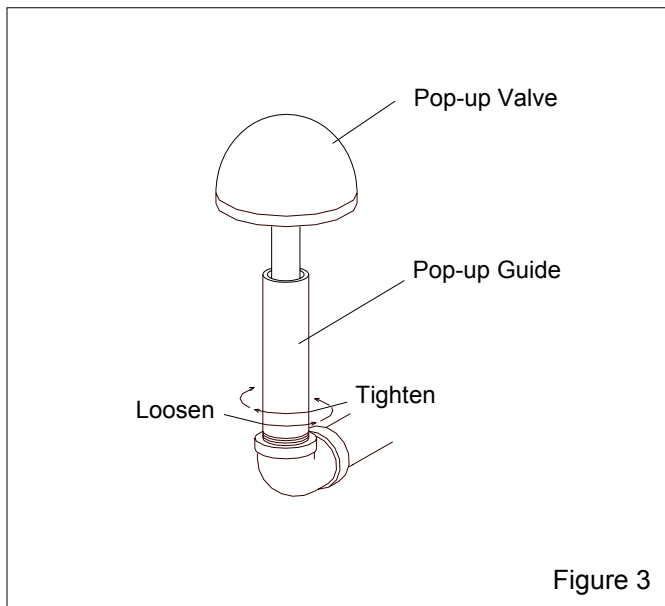

Figure 3
5.3. Replacing the Pop-Up Valve, Figure 3